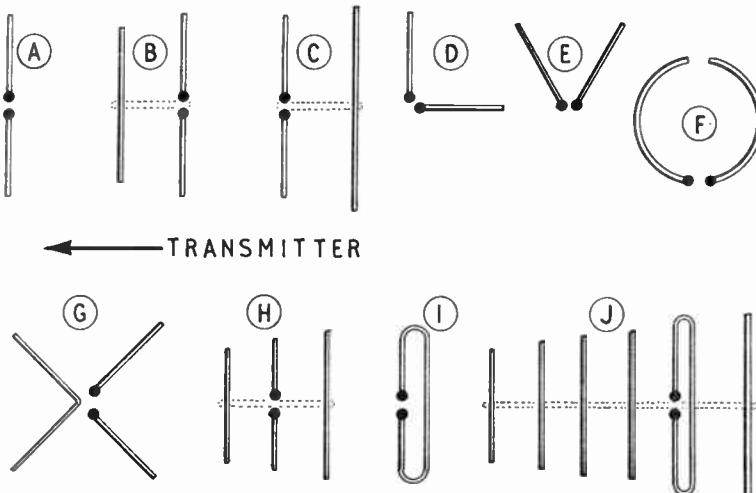
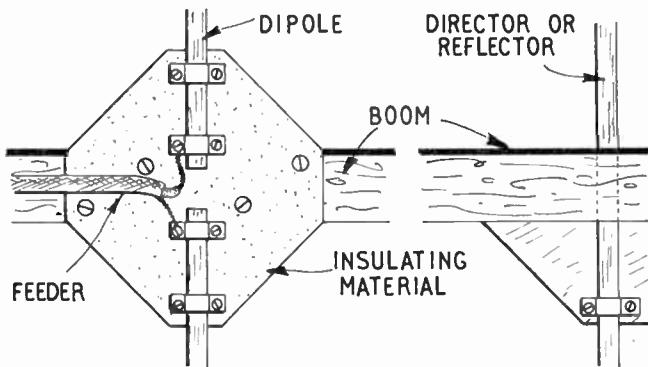
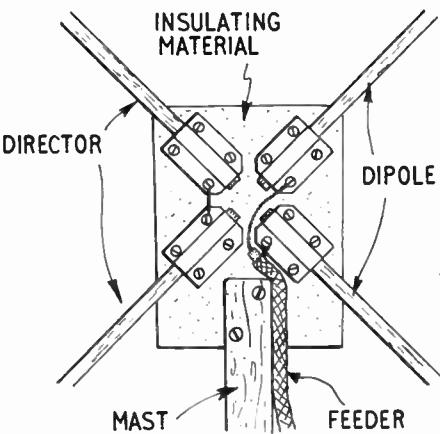
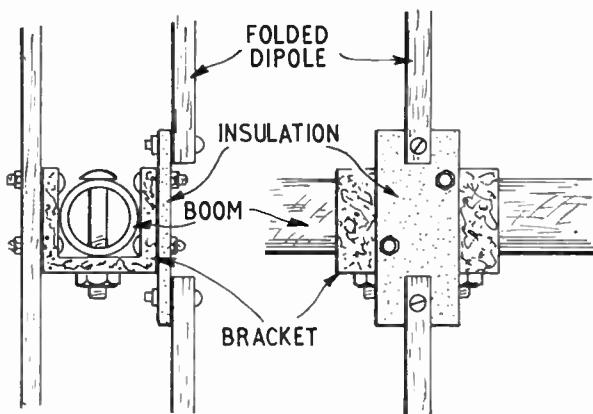

Fig. 1—Popular types of T.V. and V.H.F. aerials
Fig. 2—Mounting elements on a wooden boom
Fig. 3—Centre of X-type aerial
Fig. 4—Mounting of folded dipole
The aerial A in Fig. 1 can be made by fixing the two elements to a piece of insulating material, as in Fig. 2. A piece of perspex or other reasonably strong material about 6 in. by 6 in. will do for this. Clips can be bent up from scrap aluminium sheet, which is easily cut with shears or a hacksaw. Corrosion will probably arise in due course if dissimilar metals are used for clips and elements, so it is wise to keep to the same kind of material, as far as possible. Small nuts and bolts secure the clips to the insulation.
An aerial like that at A in Fig. 1 will only need a boom in one direction, for mounting purposes. This can be 1 in. by 2 in. knot-free hardwood. If the aerial is outside, the boom should be at least as long as one dipole element, if possible. It may be screwed to a bracket mounted on the house.
Aerials like those at B and C in Fig. 1 require a director or reflector. This can be fitted in a groove cut at one side of the boom, being clamped in position by a triangular piece of wood, as in Fig. 2. The wood carries a clip, to steady the element. The boom is of such a length as to bring dipole and director or reflector elements the correct distance apart. With a H type aerial, the feeder travels along the boom, then down the mast, which is central between the elements.
The aerial at H in Fig. 1 will need a boom long enough for all three sets of elements, and at least 1½ in. by 2 in. With any outdoor aerial, the whole construction and mounting must be
This type is shown in Fig. 1 at G, and may be constructed as in Fig. 3. Suitable clips are most easily bent in a vice, by forming the aluminium round a piece of wood, or other object, of the same diameter as the aerial rods. The two elements of the director are connected together. One piece of tube,
This aerial is shown at E in Fig. 1, and is very easily made. A semicircle of insulating material can have two clips bolted to it, in the same positions as the two top clips in Fig. 3, and these will hold the elements. A fairly heavy base, cut from wood, will hold the aerial up. It is sometimes placed on top of the receiver.
The aerials D and F in Fig. 1 can be made in the same way. One feeder conductor is connected to each element.
This element is illustrated at I in Fig. 1, and used in aerials such as that at J. Fig. 4 shows a method of construction, where the dipole is bolted to a bracket, and the folded ends are secured to a strip of perspex or similar insulating
material. The bend is such that the curve at the end of the element, I in Fig. 1, is about 3 in. in diameter.
In Fig. 4, a metal boom is shown. Reflector and directors (J) can be fitted by drilling the boom to be a tight fit for the elements, then inserting a small bolt at right angles through boom and element. Joints in metal construction out of doors should be as tight as possible. Bitumen or other out-door paint will help seal the joints against corrosion.
The length, in inches, for the dipole element of the aerials, can be found by dividing 5540 by the frequency in mc. The reflector element is generally 5 per cent longer than the dipole. The first director (H Fig. 1) is about 5 per cent shorter than the dipole.
Aerials like that at E in Fig. 1 often have sliding elements, one tube fitting in another. The exact length can then be adjusted for best results.
- a, type of aerial in Fig. 1.